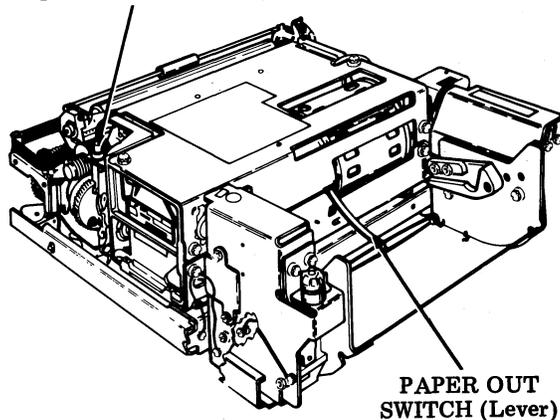

Fig. 10—Low Paper Switch (Friction Feed Printer)
2.09 If a low paper (about ten feet left on roll) condition occurs while copy is being printed, a Low Paper indicator light (Fig. 10) will